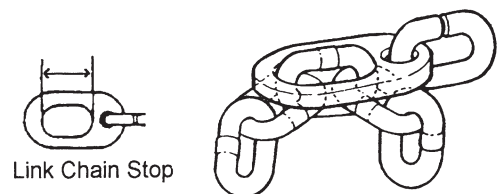

Fig. 1
6. Check the chain for damage and elongation. Use the chain gauge on the bottom end of the chain as a guide. If the chain links do not fit inside the chain gauge, as shown in Fig. 1, the chain must be replaced.